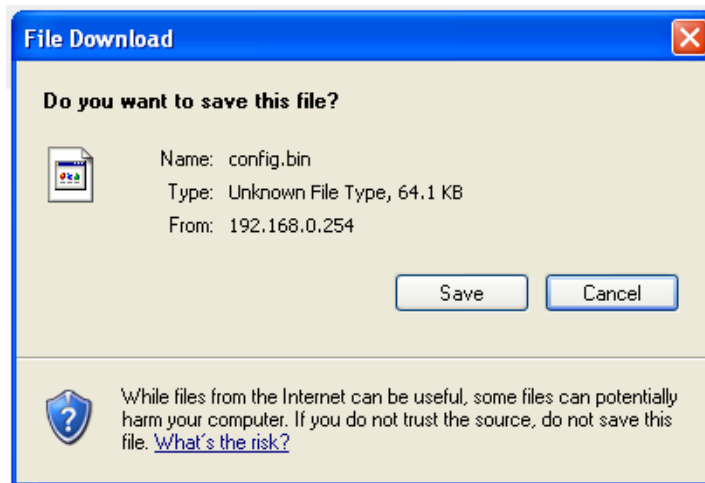

Figure 35: Save System Backup File Dialog Box
1.	Click the BACKUP SETTING button on the display, and the save “config file” dialog box will appear, as shown in Figure 35.